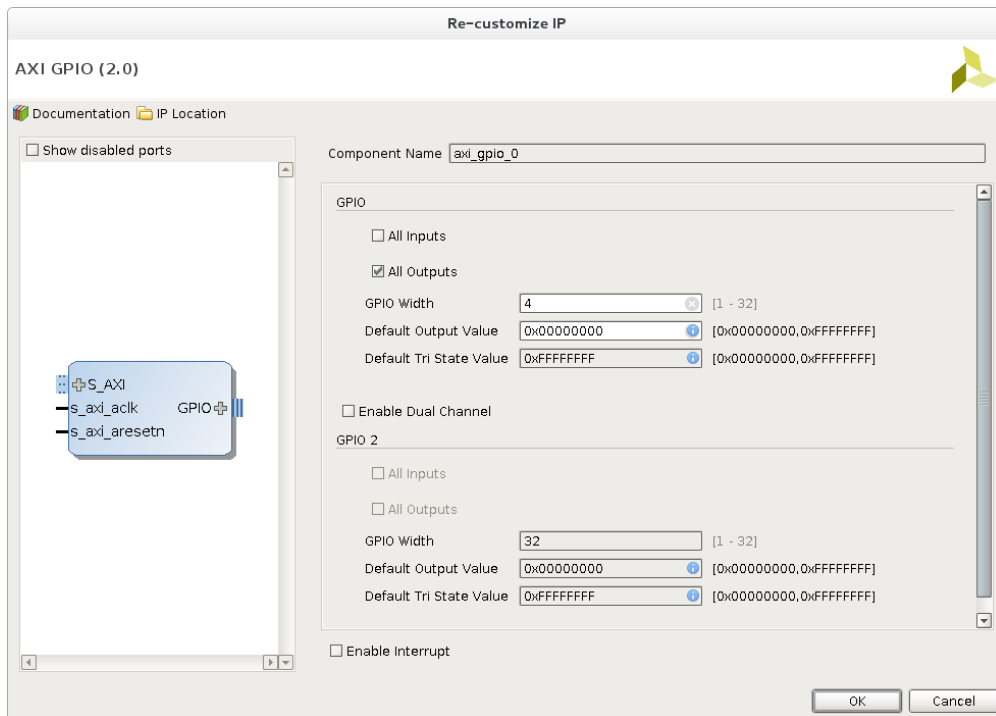

Figure 4: Customize GPIO
- (g) The processor is set up, now we need to add General Purpose IO (GPIO) blocks to interact with LEDs, Switches and Buttons on the ZYBO Z7-10 board. Right click and select 'ADD IP'. Search for 'GPIO' and select 'AXI GPIO' to add it to the design. Double click on the GPIO block named 'axi\_gpio\_0'. Set the following configuration for the GPIO and click 'OK' (Figure 4).